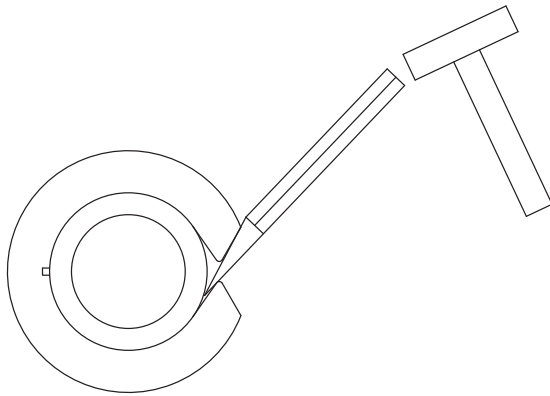

Figure 7
- 4.2.2.4 Wear spacers are slotted to allow for in-place removal. Using a narrow chisel wedged between the stud and the spacer, as shown in Figure 7, wedge/pry the wear spacer until it fractures and is clear to be removed from the stud. Repeat for the remaining spacers in the set that is to be removed.